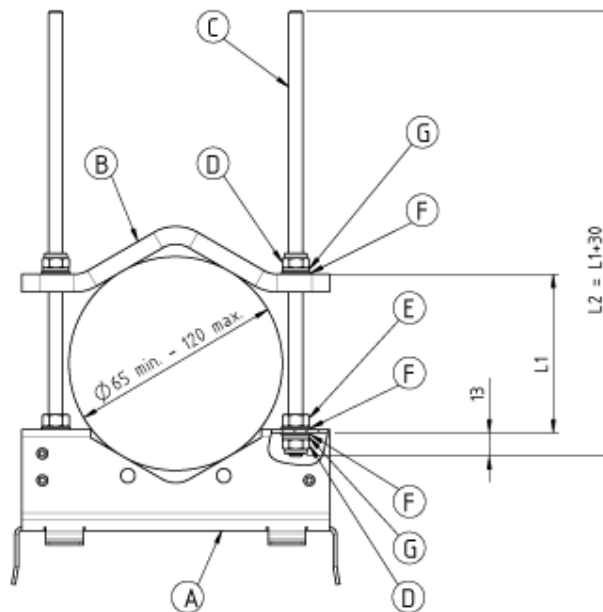
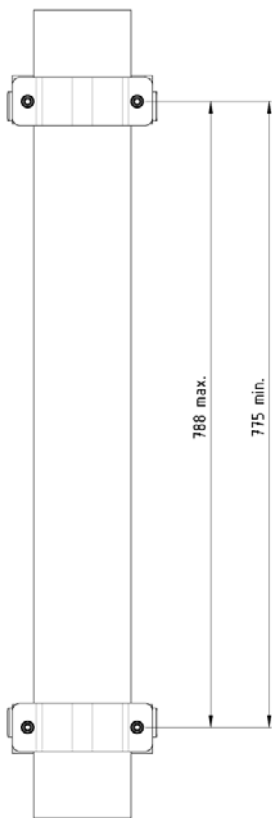

figure 3-6 Pole mounting – with brackets
figure 3-7 Pole mounting - pitches
Screw a hexagon nut (E) to the threaded bolt and place a flat washer (F) on it. Insert this side of the bolt into the mounting bracket (A). Then, fasten the mounting bracket with a flat washer (F), split lock washer (G), and the locking nut (D). See figure 3-6 Pole mounting – with brackets.
2. Place the pre-mounted brackets with threaded bolts to the pole or post, slide the counter bracket (B) on the threaded bolts and fasten the kit with a flat washer (F), split lock washer (G), and the locking nut (D).
- Note:** When fastening the brackets make sure that they are installed congruently and not at an angle to each other. To determine the distance between the clamps refer to figure 3-7 Pole mounting - pitches.
3. Hang the Remote Unit into the upper bracket, insert it into the lower bracket (see chapter 3.1.3), and fasten it to the lower bracket with the M8x25 screws (H), split lock washers (G), and flat washers (F).